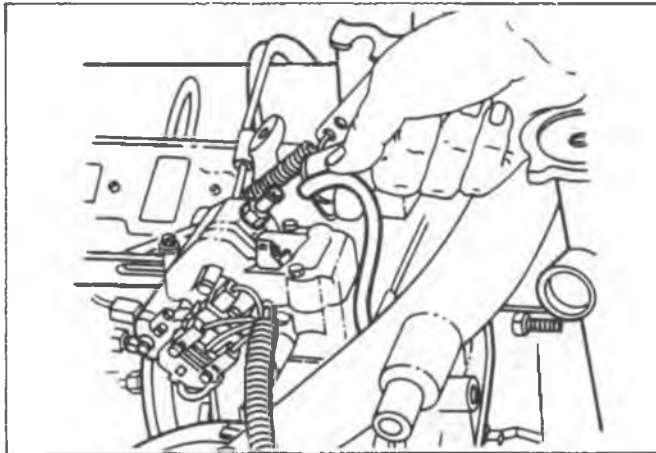

Fig. 2-19 Disconnecting Hose from Injection Pump
4. Disconnect necessary wires and hoses at injection pump (Fig. 2-19).